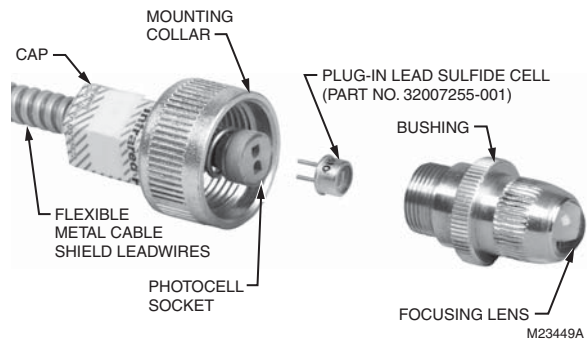

Fig. 8. Installing lead sulfide photocell.
Unscrew the bushing from the cap, plug the photocell into the cell mount, and screw the bushing back into the cap (Fig. 8). The bushing also includes a focusing lens to concentrate available radiation on the photocell face.
4. If the meter reading is still too low, replace the lead sulfide cell (Fig. 8).